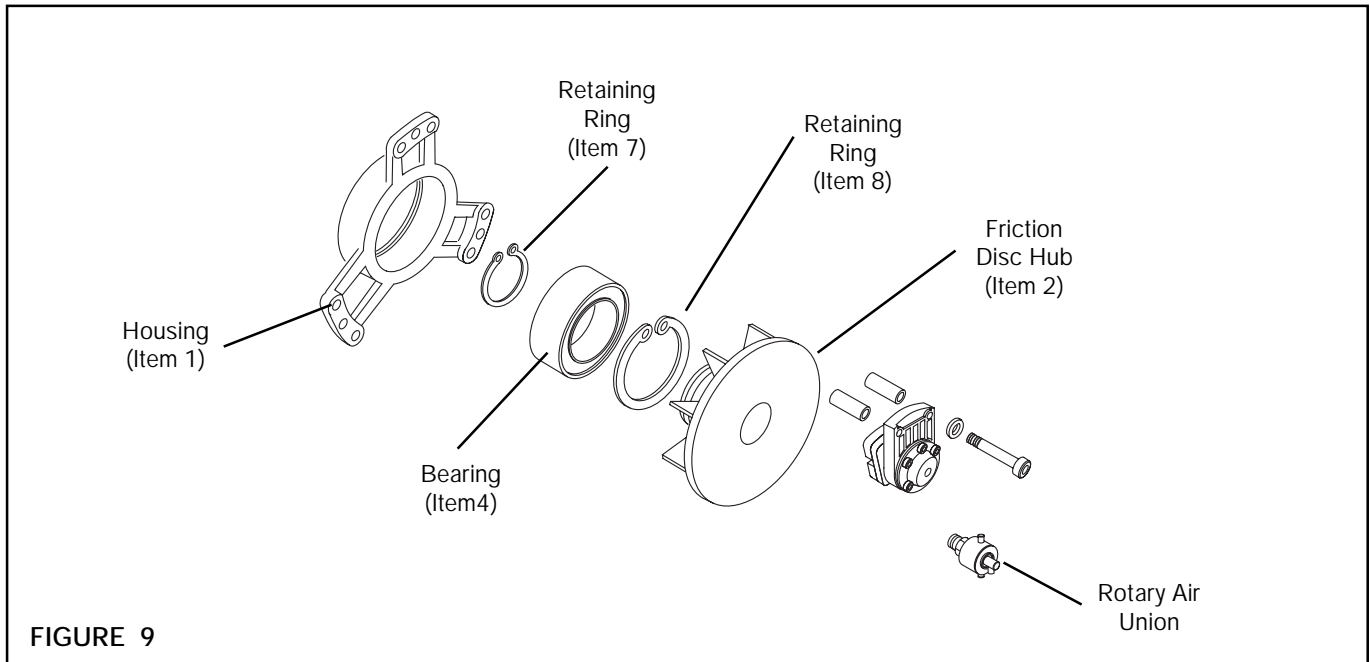

FIGURE 9
4. Remove Retaining Ring (Item 7) (See Figure 9).
5. Fully supporting Housing (Item 1), press Friction Disc Hub (Item 2) out of Bearing (Item 4) and Housing (See Figure 9).
6. Remove Retaining Ring (Item 8) (See Figure 9).
7. Fully supporting Housing (Item 1), press the old Bearing (Item 4) out of Housing (See Figure 9).
10. Install Retaining Ring (Item 8) (See Figure 9).
11. Slide Friction Disc Hub (Item 2) into Bearing (Item 4) and Housing (Item 1) (See Figure 9).
12. Install Retaining Ring (Item 7) (See Figure 9).